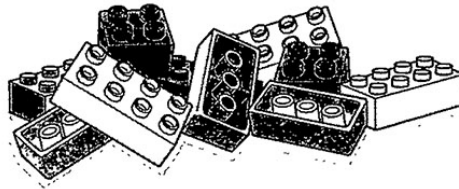

Fig. 1
- 3 Fig. 1 shows some children's plastic building blocks.